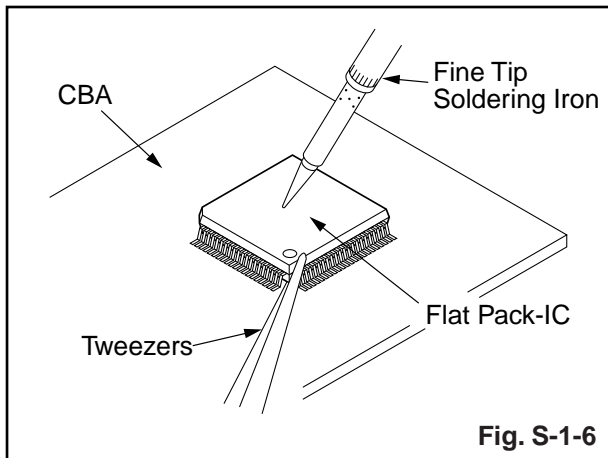

Fig. S-1-6
- (2) Remove the flat pack-IC with tweezers while applying the hot air.
- (3) Bottom of the flat pack-IC is fixed with glue to the CBA; when removing entire flat pack-IC, first apply soldering iron to center of the flat pack-IC and heat up. Then remove (glue will be melted). (Fig. S-1-6)
- (4) Release the flat pack-IC from the CBA using tweezers. (Fig. S-1-6)
soldering iron to center of the flat pack-IC and heat up. Then remove (glue will be melted). (Fig. S-1-6)
- (5) Release the flat pack-IC from the CBA using tweezers. (Fig. S-1-6)